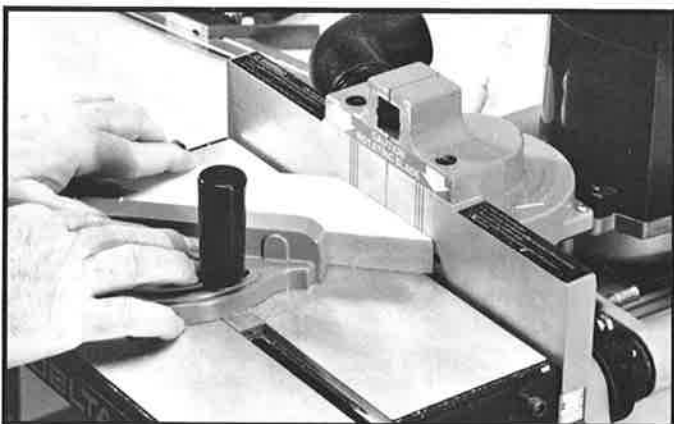

Fig. 48
2. Cut the biscuit slot in the second piece, as shown in Fig. 48, in the same manner as in **STEP 1** with the "good" or face side of the board against the table.